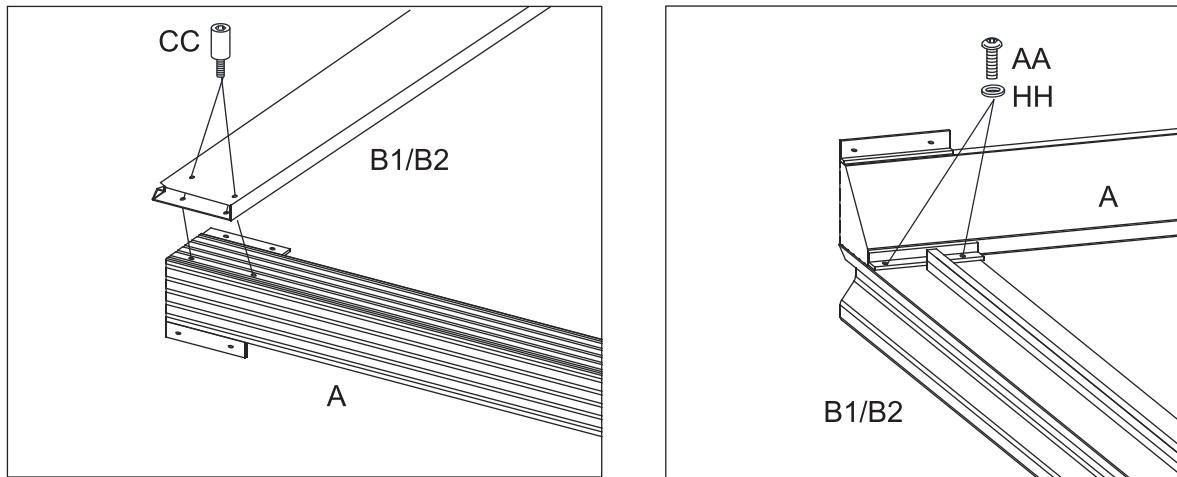

Figure 4.1
4.1: Attach Lintels (B1,B2and B3) to end of Corner Posts (A) first with Bolts (CC) then with Bolts (AA) and washer (HH). Tighten all Bolts. See Figure 4.1.